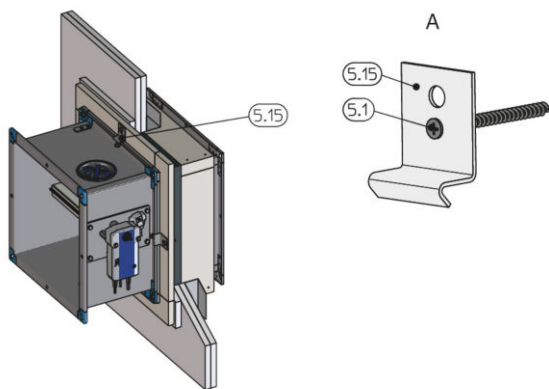

Fig. 104: Fixing the damper to the perimeter metal sections
2. ▶ Fix the fire damper with brackets and dry wall screws to the perimeter metal sections, see Fig. 104.